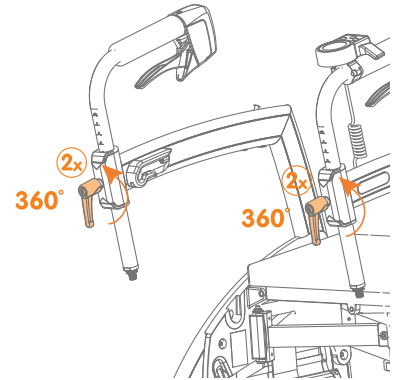
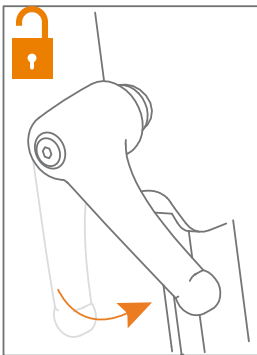

Figure 22: Loosen the adjustment handles.
Figure 23: Rotate counterclockwise.
- b. Loosen the adjustment handles counterclockwise (**Figure 22**) and (**Figure 23**).